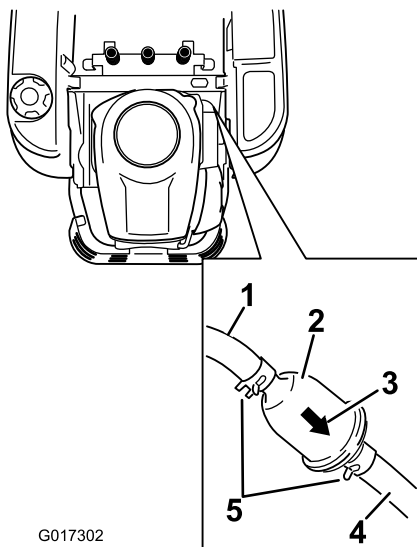

Figure 35
3. Raise the seat and locate the fuel filter as shown in Figure 35.
4. Squeeze the ends of the hose clamps together and slide them away from the filter (Figure 35).
6. Install a new filter with the flow direction arrow coming from the fuel tank and pointing to the engine. Move the hose clamps close to the filter (Figure 35) to secure it in place.